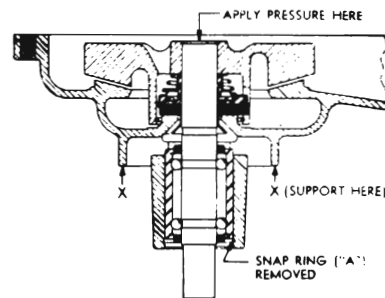

Fig. 6-43. Removing Impeller Shaft and Bearing
3. Remove cover plate from back of pump body. See Fig. 6-43.